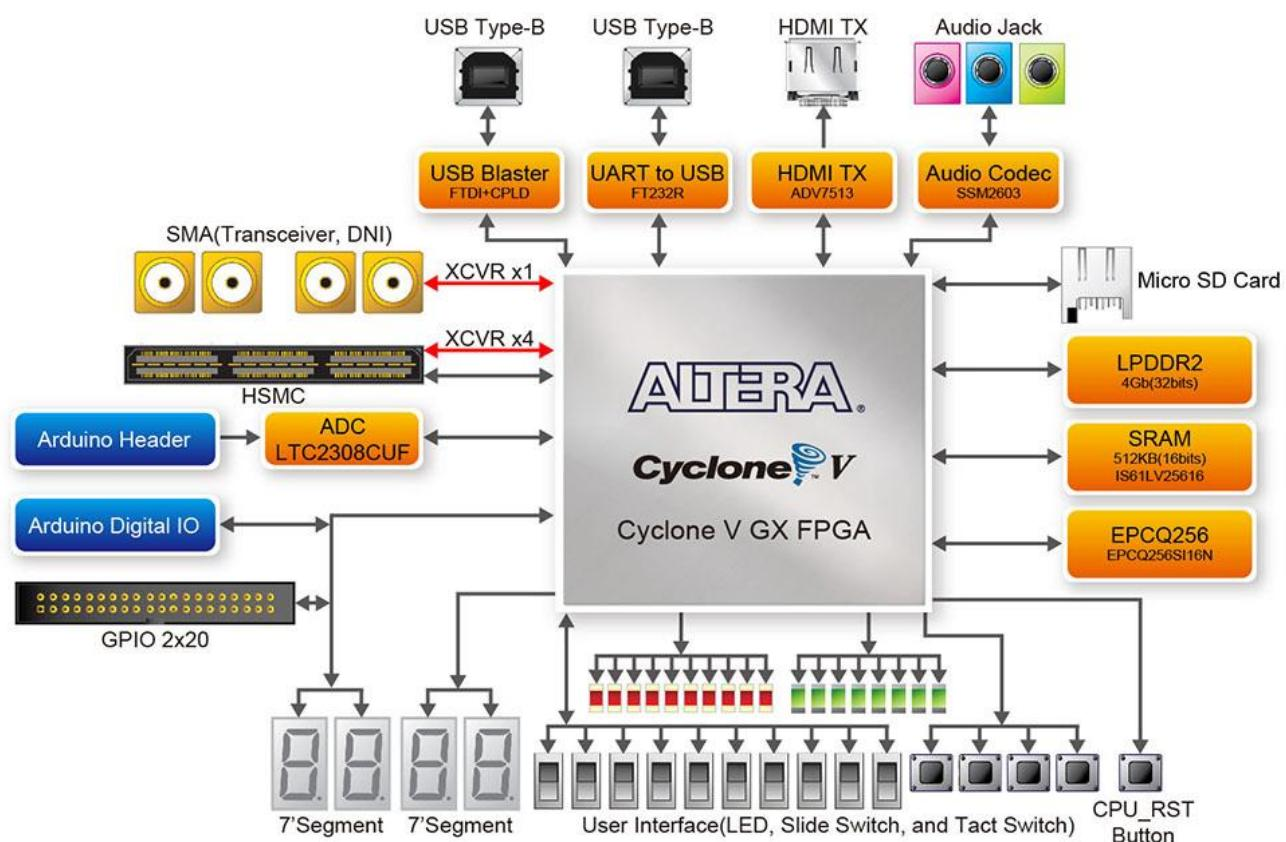

Figure 1-4 Board Block Diagram
**Figure 1-4** gives the block diagram of the board. To provide maximum flexibility for the user, all connections are made through the Cyclone V GX FPGA device. Thus, the user can configure the FPGA to implement any system design.